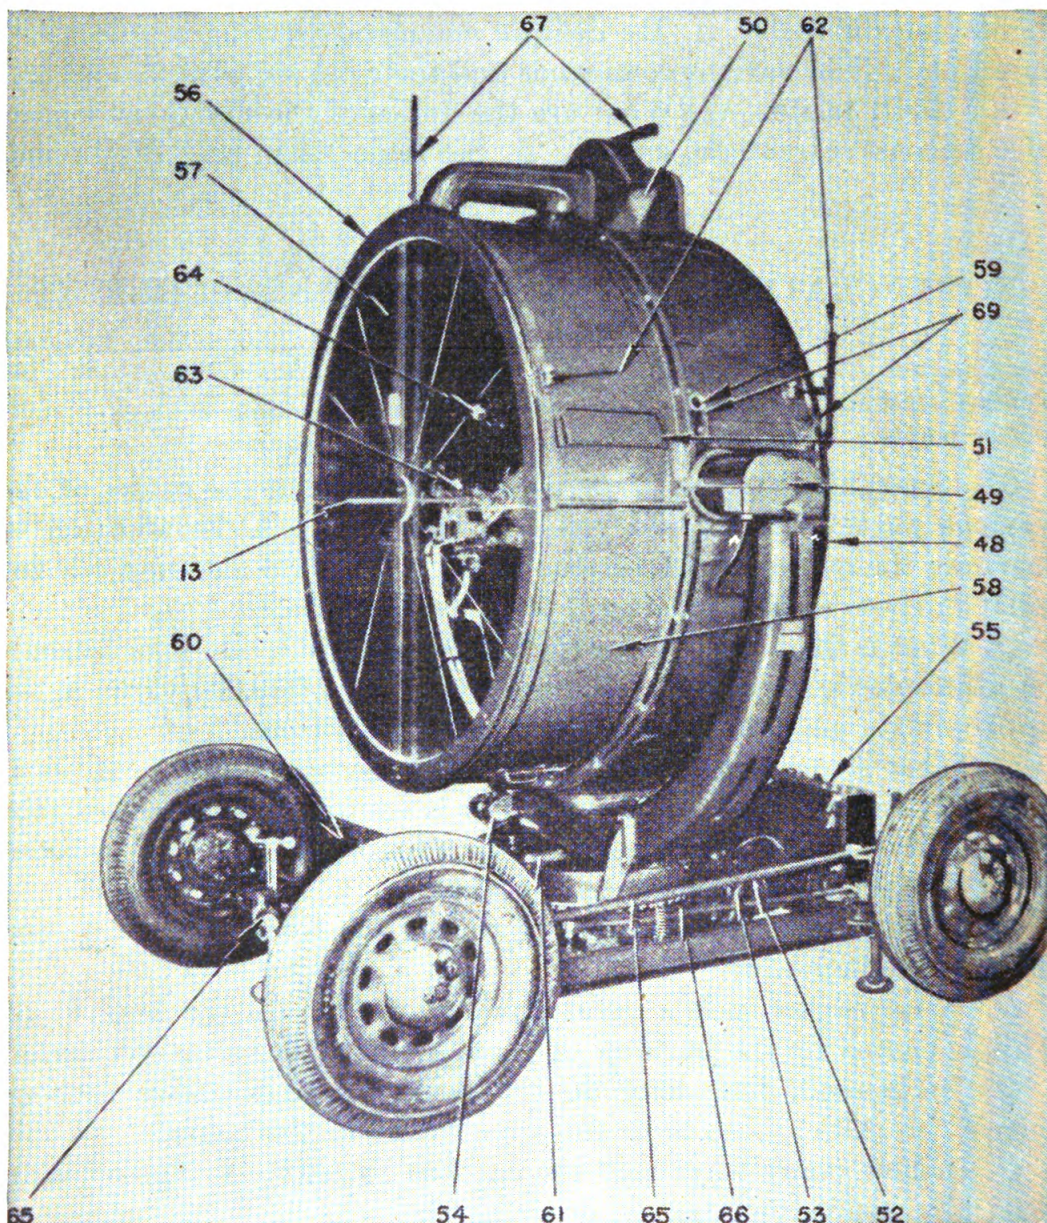

FIGURE 82.—Sperry M1941 antiaircraft searchlight (front quarter view).
b. Sperry searchlights.—Q. Point out the various parts of the searchlight with which your unit is equipped. While pointing out each part describe its use. *A.* See figures 82 to 85, inclusive.